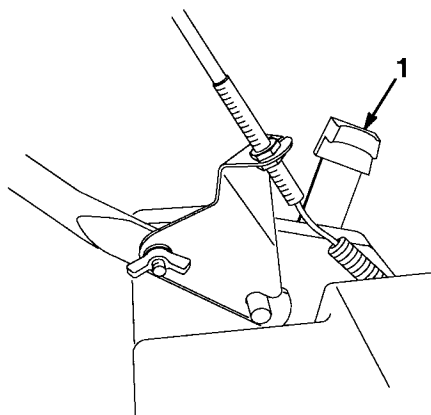

Figure 17
1. To change cutting height pull wheel height adjustment lever toward wheel and move to the desired position (Fig. 17).